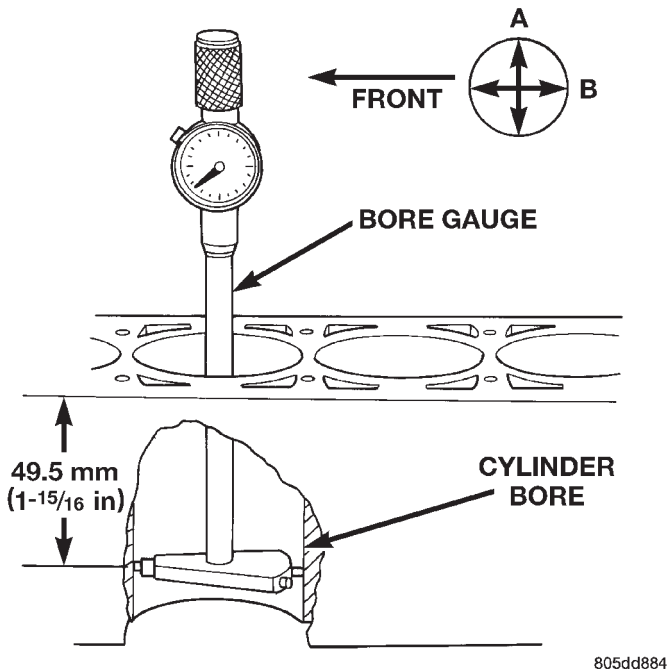

Fig. 4 Bore Gauge
(1) To correctly select the proper size piston, a cylinder bore gauge, capable of reading in 0.003 mm (.0001 in.) INCREMENTS is required. If a bore gauge is not available, do not use an inside micrometer.
(2) Measure the inside diameter of the cylinder bore at a point 49.5 mm (1-15/16 inches) below top of bore. Start perpendicular (across or at 90 degrees) to the axis of the crankshaft at point A and then take an additional bore reading 90 degrees to that at point B (Fig. 4).